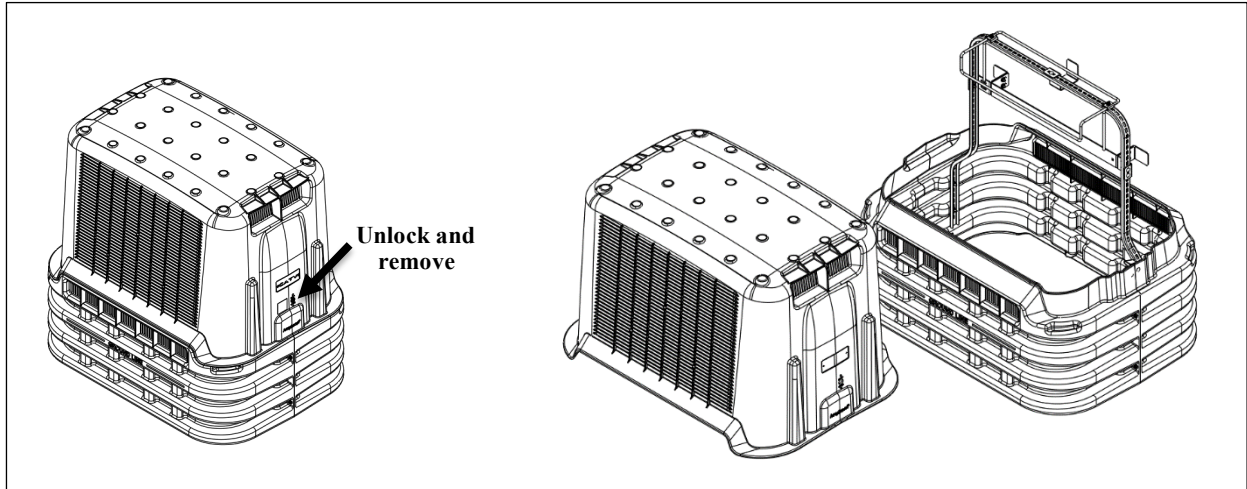

Figure 2 Remove Dome
1. Remove the dome from the Z14 using an appropriate key. Set the dome aside for later use (Figure 2).